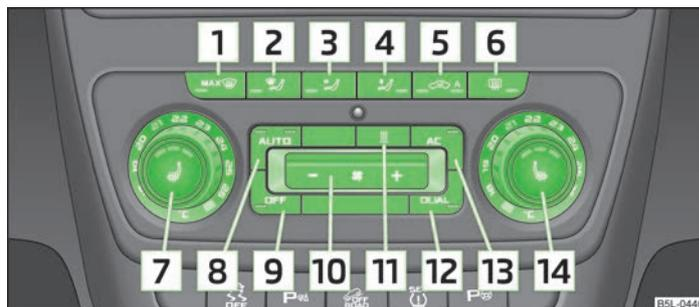

Fig. 91 Climatronic: Control elements
- › (AC) 13 » Fig. 91 on page 86 switched on.
- › Press the button (AUTO) 8 » Fig. 91 on page 86.
- Press the button (AUTO) **8** » Fig. 91 on page 86. The indicator light in the top right or left corner lights up, depending on which mode was last selected.
- Press the button (AC) » Fig. 91 on page 86. The indicator light lights up in the button.
- When you again press the button (AC), the air conditioning system is switched off. The indicator light in the button goes out. Only the function of the ventilation remains active when no lower temperature than the outside temperature can be reached.
- The temperature for both sides can be set with the control dial **7** » Fig. 91 on page 86 after switching on the ignition.
- Repeatedly press the button (↻) **5** » Fig. 91 on page 86 until the indicator light on the left side of the button is illuminated.
- If the windscreen mists up, press the button  **1** » Fig. 91 on page 86. Press the button  when the windscreen is demisted.
➤ Repeatedly press the button  » Fig. 91 on page 86 on the left side (reduce blower speed) or on the right side (increase blower speed).
- Press the button  **1** » Fig. 91 on page 86.
- Press the button  **11** » Fig. 91 on page 86.
- Press the button  **1** » Fig. 91 on page 86 again or press the button  **8** .
- Press the button  **11** » Fig. 91 on page 86 again.